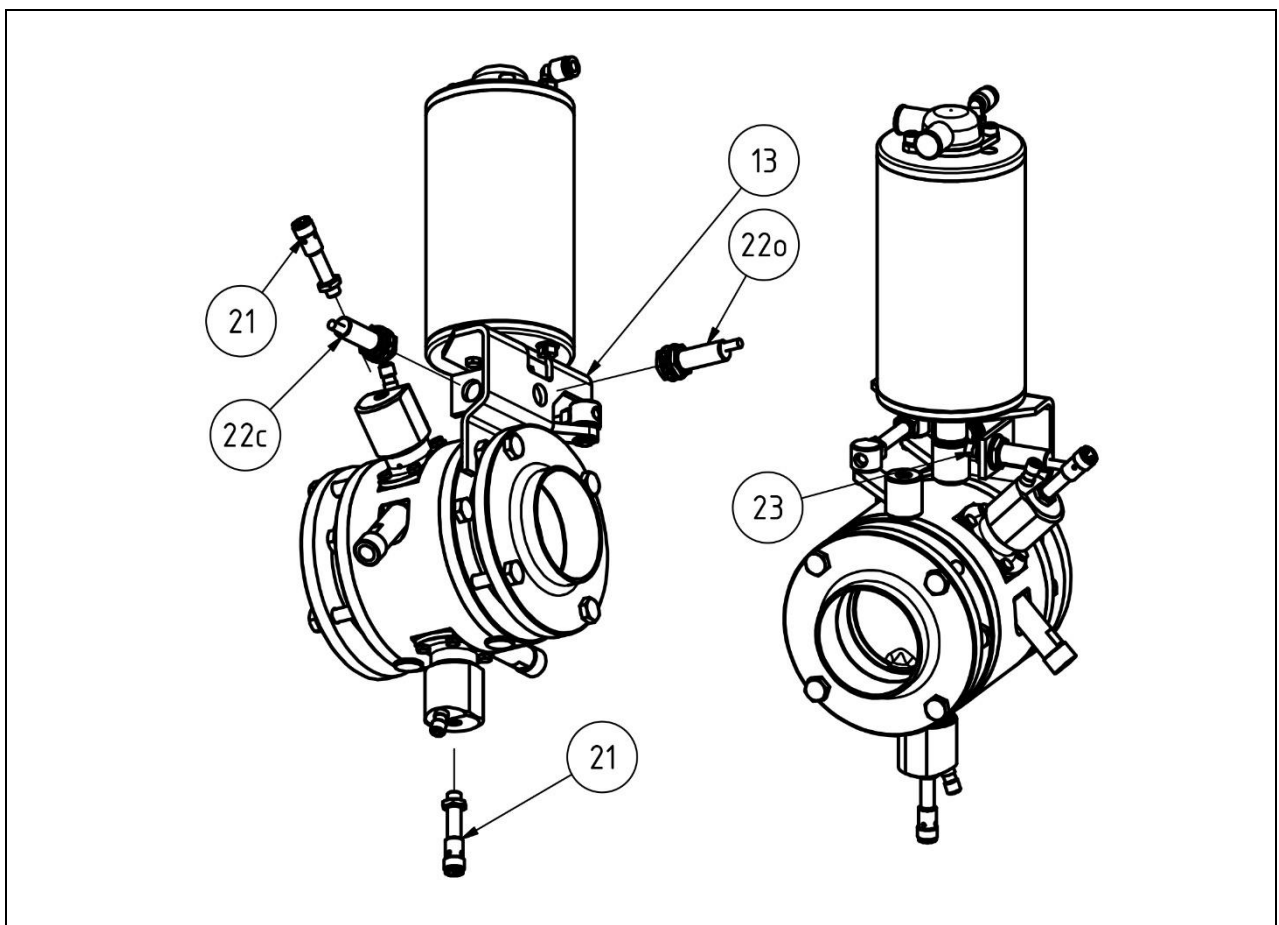

Fig. 6-10: Pneumatic Actuator with Feedback
- Perform a function test by repeatedly switching to the open/closed position (90°). Make sure that the switch cam (Fig. 6-10, item 23) performs a full 90° movement.
- Screw the first nut onto the switches for monitoring the valve disc positions (Fig. 6-10, items 22c + 22o) and insert these into the holes in the holding bracket (Fig. 6-10, item 13).
- The switch cam (Fig. 6-10, item 23) is opposite the switch for monitoring the “Closed” position (Fig. 6-10, item 22c).
- After opening, the switch cam (Fig. 6-10, item 23) is opposite the switch for monitoring the “Open” position (Fig. 6-10, item 22o).